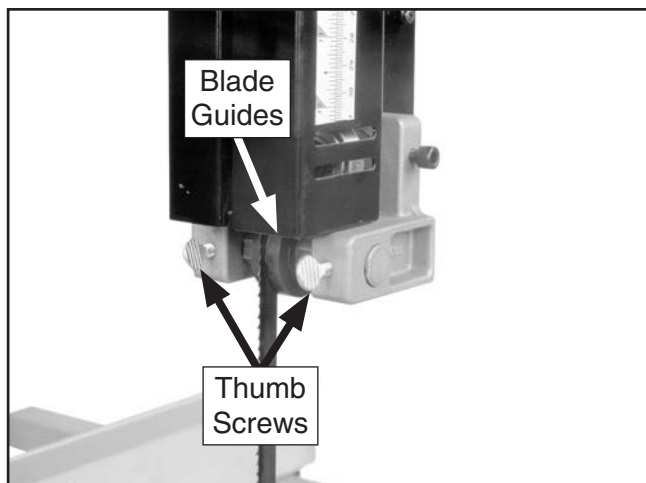

Figure 49. Upper blade guides side-to-side controls.
2. Loosen the thumb screws shown in **Figure 49**.